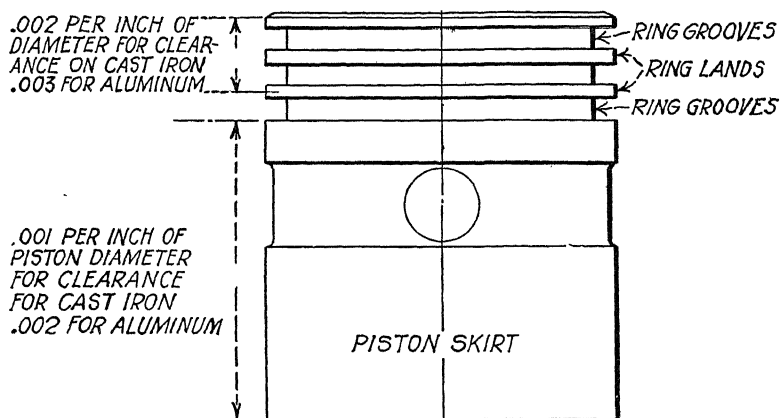

Fig. 16. Nomenclature of Piston Parts and Rule for Piston Clearance
groove; see Fig. 16. The repair man should be careful to check the clearance when installing new pistons. Clearance is the difference in size between the piston diameter and the cylinder diameter. The piston should be much smaller at the ring lands than at the skirt, because there is greater heat at the top therefore greater
*sandths (.003) inch at the ring lands and two thousandths (.002) at the skirt for each inch of piston diameter, Fig. 16. This rule is not hard and fast but is a safe one to follow. The piston should be measured with a micrometer to see if it is perfectly round before fitting it to the cylinder. The aluminum pistons referred to are of the solid (non-slotted skirt) type.*
may be figured as described previously and illustrated in Fig. 16. Be very certain not to neglect relieving ring lands as the piston head expands so much faster than the piston skirt, owing to the fact that it operates in a very high temperature.